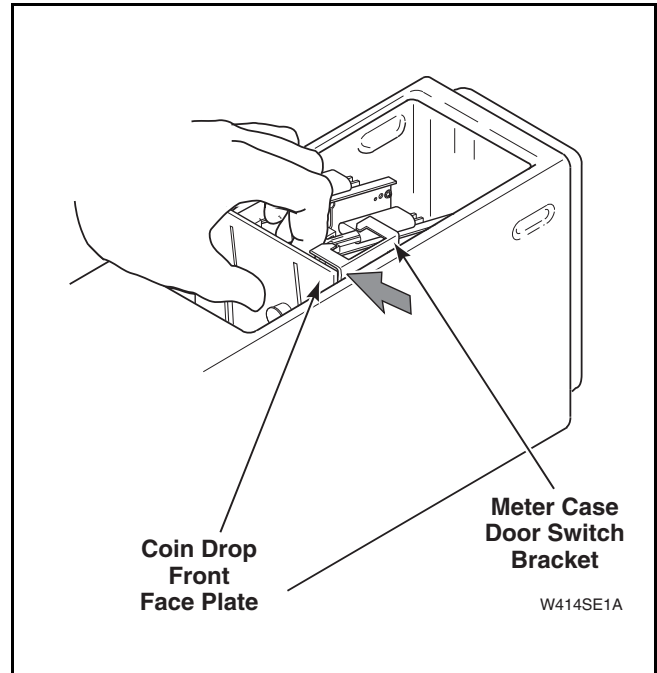

Figure 56
- (2) Carefully pull front of coin drop up and forward, so the drop's front face plate clears the meter case's door switch bracket. Refer to *Figure 56*.
- (4) Grasp top of coin drop front face plate between the two drops, as shown in *Figure 56*.